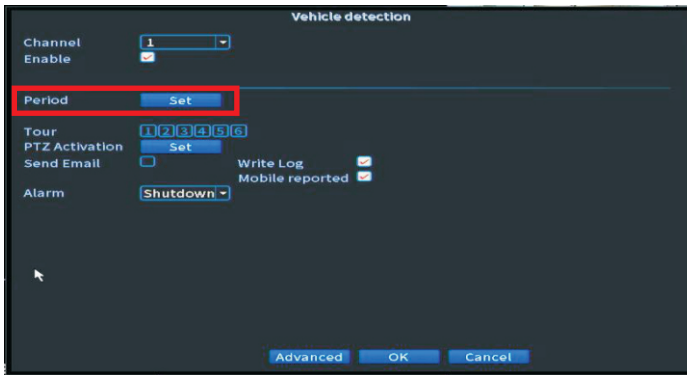

Figure 5. Click of Period "Set"
- Click on the Period "Set" to set schedule for the specific day(s) and time to activate the alarm. See Figure 5.